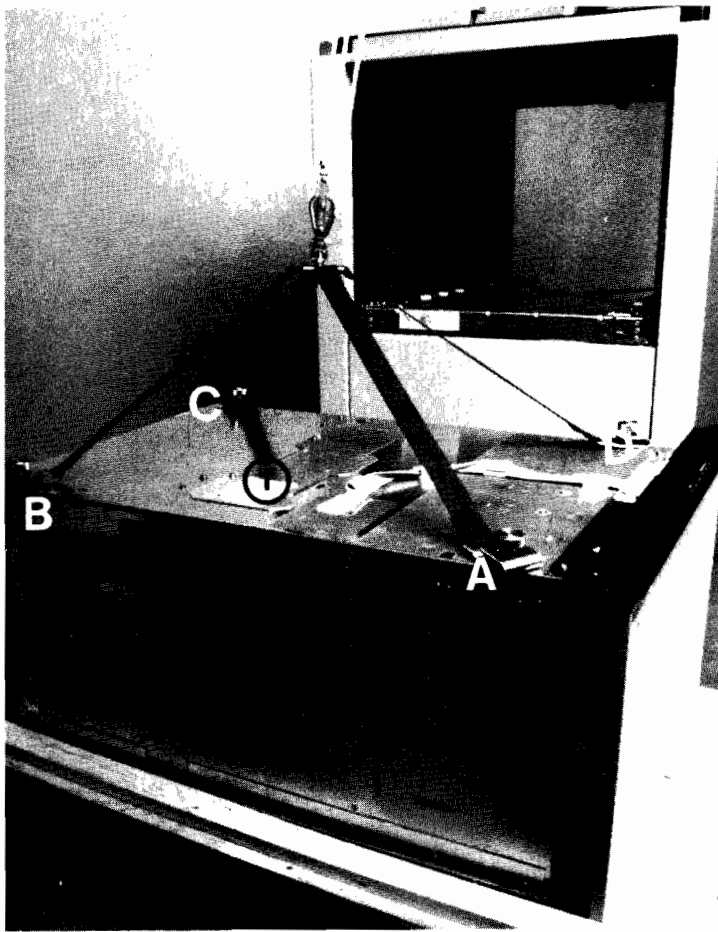

Figure 4-3. Autochanger Resting on Pallet with all Four Straps Attached
2. Locate the Autochanger access plate. Refer to Circle #1 in Figure 4-3. It is the metal plate in the center of the top of the Autochanger.